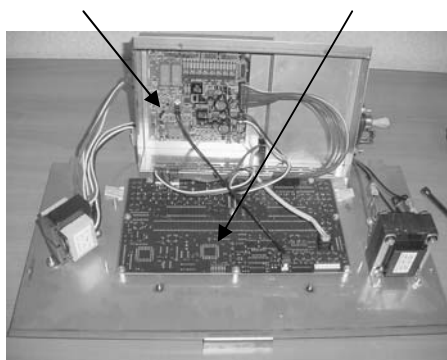

Figure 2-28
3. Using a 5/16" nut-driver or wrench, remove the 4 nuts securing the PC shield and remove shield. Figure 2-28.